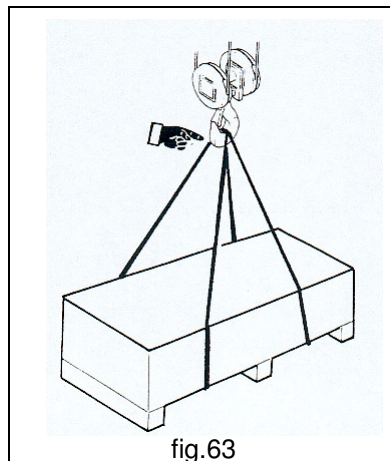

fig.63
- **ALWAYS** make certain to have corrected the slings on the load to the lifting hook, after having balanced the load before lifting it, and correctly tension the slings with slow and secure manoeuvres (fig.63).